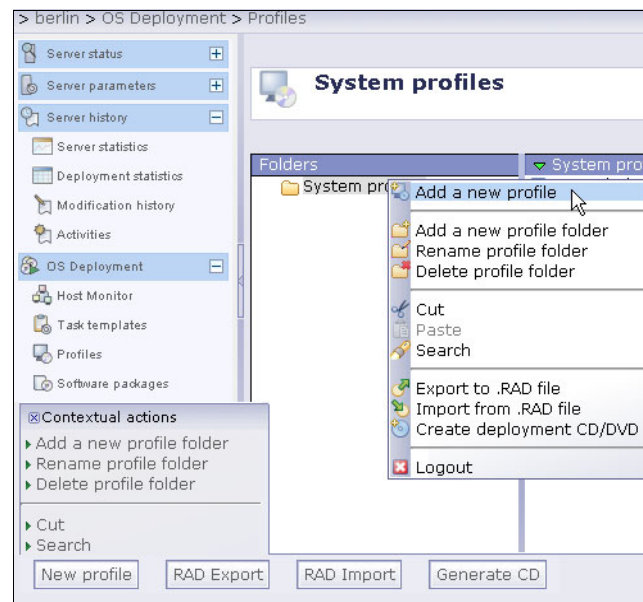

Figure 2-4 Launching the Profile Wizard
1. Log in to the console, select **OS Deployment** → **Profiles** → **Folders** → **System Profiles** → **Add a new profile**, as shown in Figure 2-4.